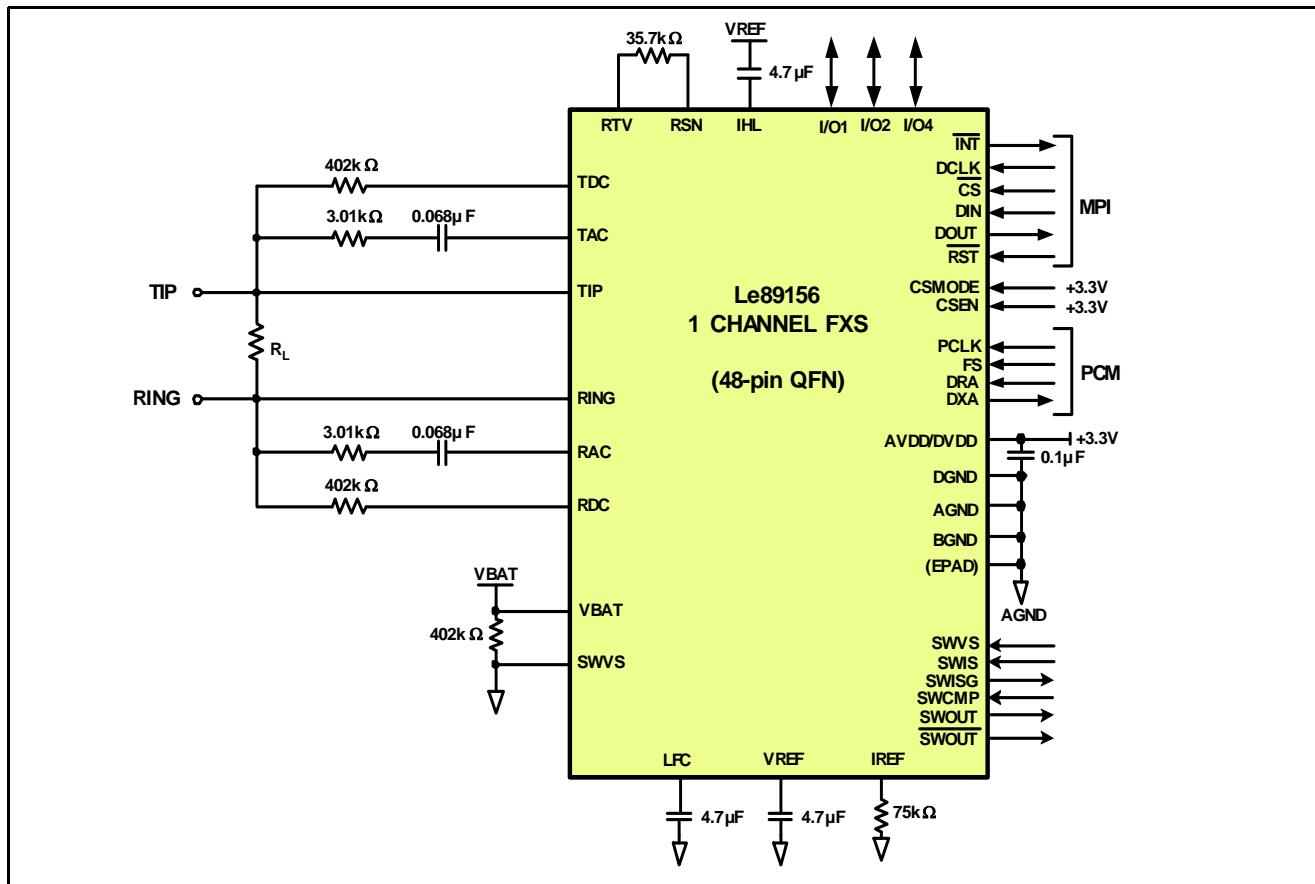

Figure 24 - Le89156 Test Circuit
- FXS Measurements are based on the test circuit shown in Figure 24